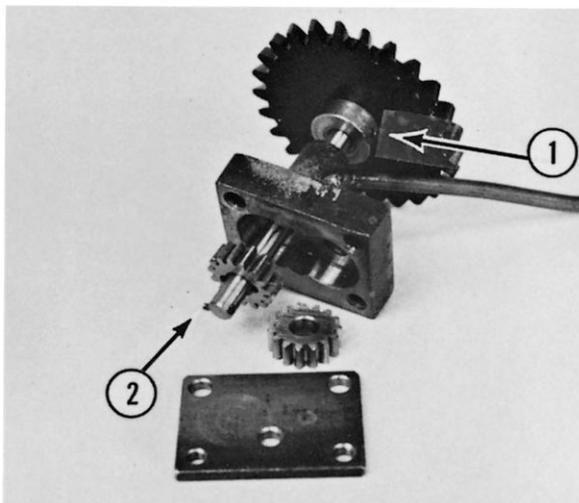

**FIG. 10-15**
The oil pump provides lubrication to the internal gear, pinion and to the upper planetary bearing. Check the oil pump inlet (1, Fig. 10-15) and outlet (2, Fig. 10-15) holes to see that they are not clogged. With oil in the planetary cavity a small amount of it should flow from the outlet tube when the drive gear is turned counterclockwise by hand.
- F. Assemble the top plate, body and bottom plate as shown (Fig. 10-16). Oil pump inlet (1, Fig. 10-15) must point toward the outside of the planetary.